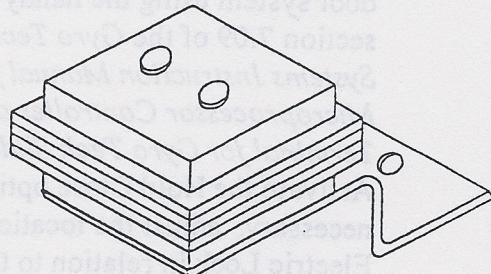

Figure 1
3. Assemble the bracket and transformer with the screw located on the transformer. See Figure 1.
6. Drill an access hole in the nut track flanges large enough to fit the bolt head. Install two (2) 3/8-16 x $\frac{1}{2}$ bolts into the bolt head track. Slide the bolts next to the belt tensioning bracket. It may be necessary to temporarily remove a rectangular plate holding the track in position to locate the two bolts. Install the Electric Lock Assembly using these bolts. Orientate the lock so the movable cam is in the down position. Locate the lock so that the center of the cam is 11 3/4 inches from the jamb tube.